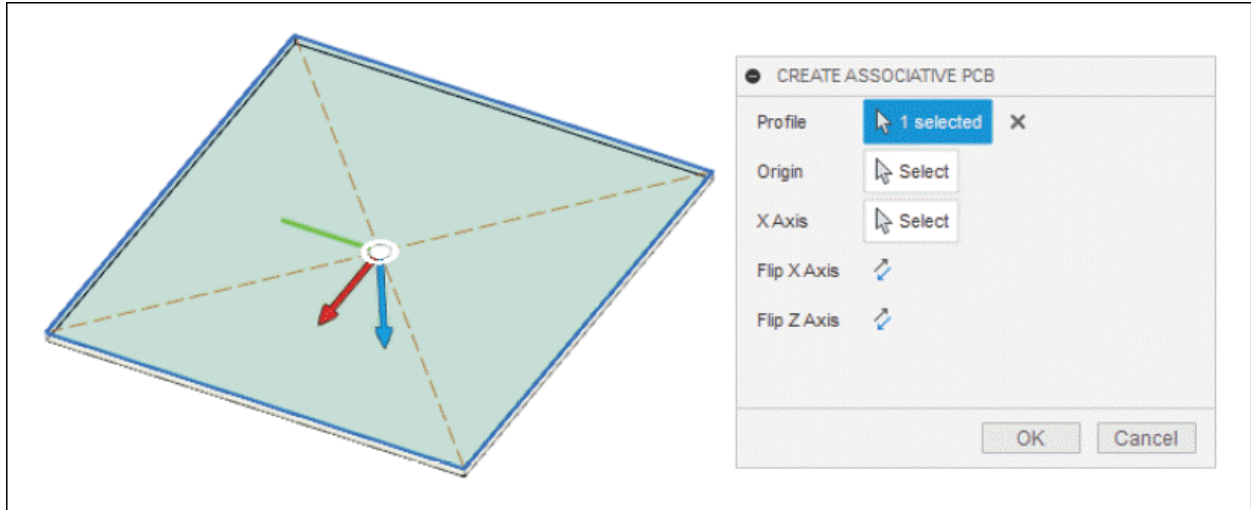

Figure-130. Selecting the profile
- Select desired sketch profile from canvas; refer to Figure-130 and specify desired parameters in the dialog box.